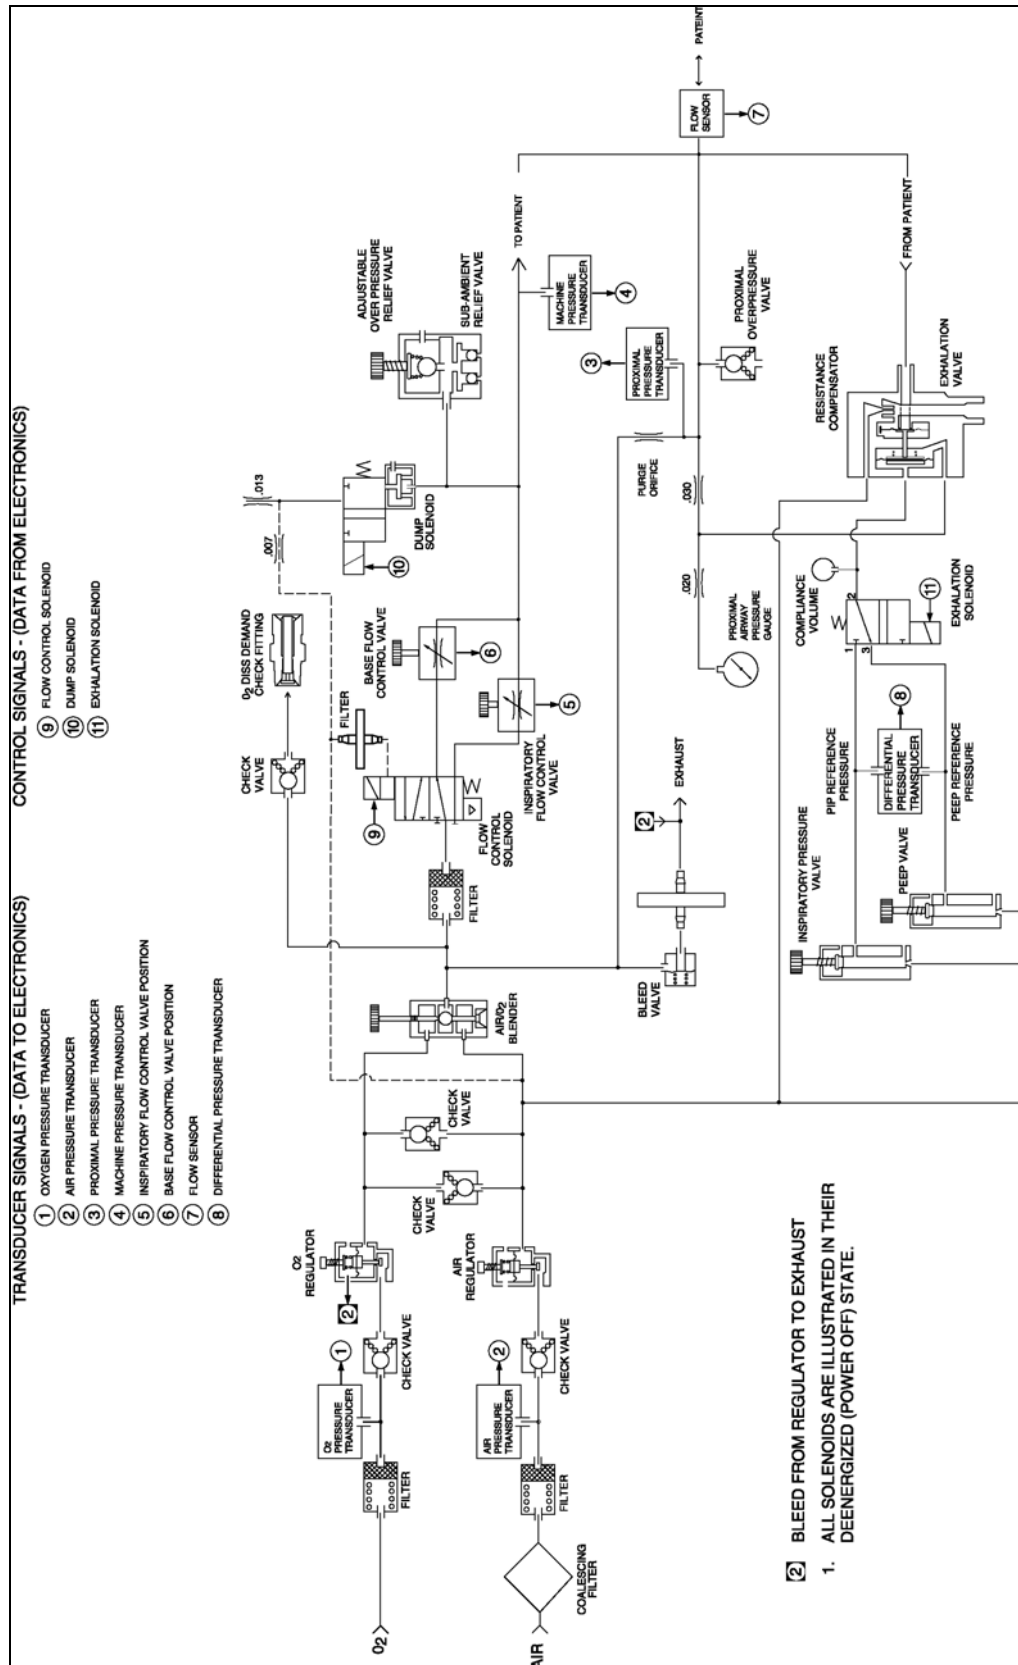

Figure 2-2: Pneumatics System Schematic
Figure 2-2 shows the schematic diagram of the BEAR CUB™ 750vs Pneumatics System. The pneumatics interface to the electronics is achieved using various actuators (solenoids) and transducers. The Pneumatics System consists of eight (8) main subsystems: Gas Inlet and Conditioning, Oxygen Blender System, Flow Control, Sub-Ambient/Overpressure Relief system, Exhalation Valve/Pressure Control, Pressure Monitoring, the Proximal Airway Purge System, and the Auxiliary Gas Outlet.